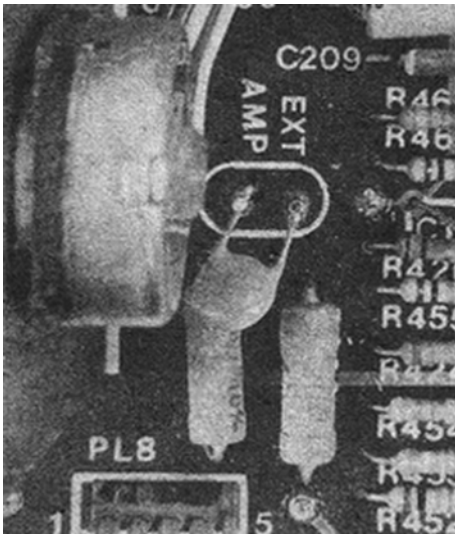

Figure 8. Reduction of illegal AM CB interference. See note 21.
- 21 If you are suffering from interference from illegal AM CB connect a 470pF ceramic capacitor across the pins marked "Ext. Amp". See Figure 8.